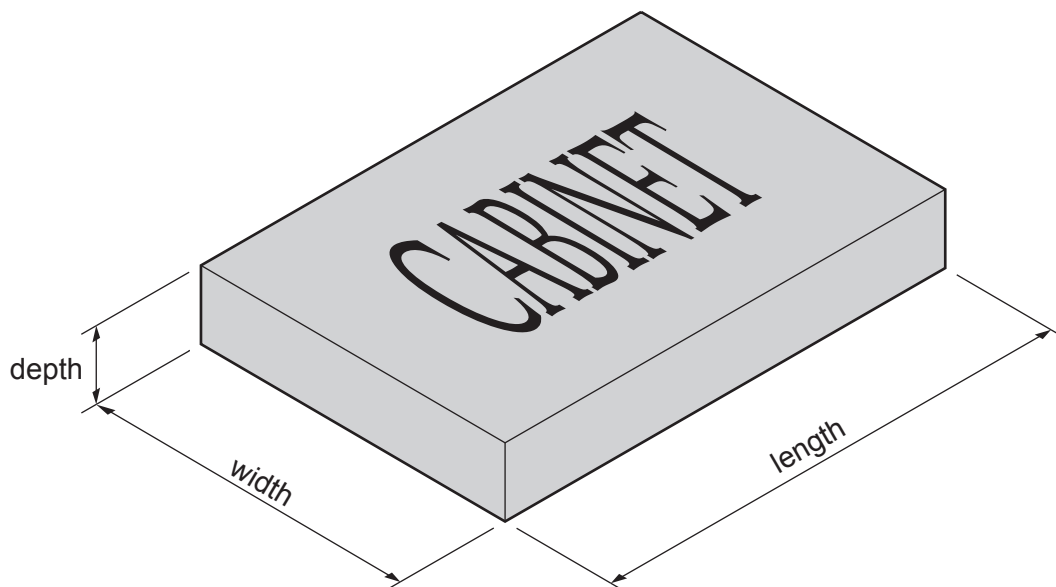

Fig. 11.4
- (h) Fig. 11.4 shows a box in which **all** the parts of the cabinet and drawer will fit for delivery to customers.
Add to Fig. 11.4 by stating an appropriate length, width and depth for the box to contain all the parts of the cabinet and drawer.